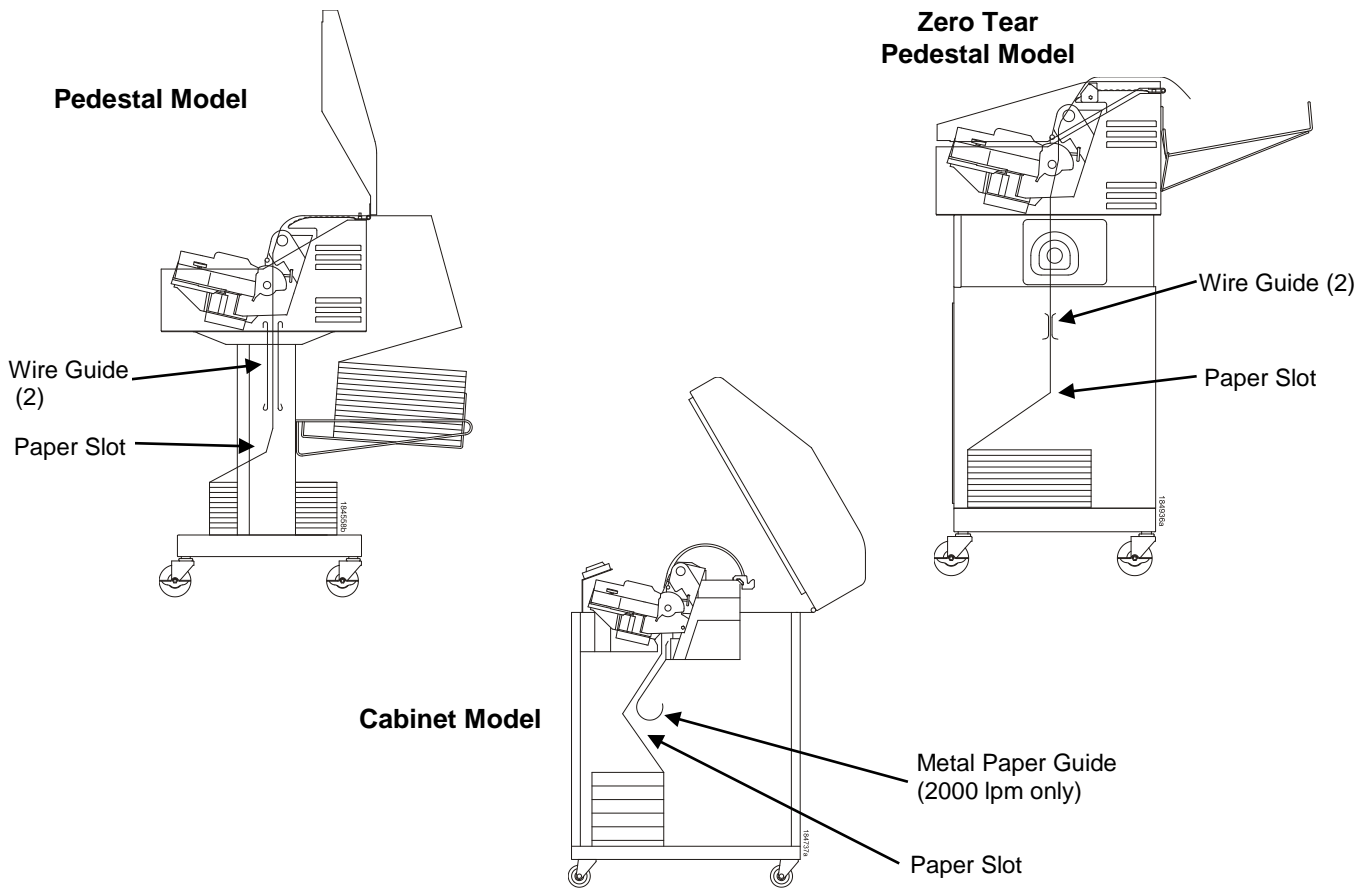

Figure 6 Paper Slot Location
4. Feed the paper up through the paper slot (see Figure 6). It may be easier to feed one corner of the new paper up through the slot first. When this corner can be grasped from the top, rotate the paper back to the normal position.
- Feed the new paper up through the paper slot. Hold the paper to prevent it from slipping down through the paper slot (see Figure 6 on page 24).